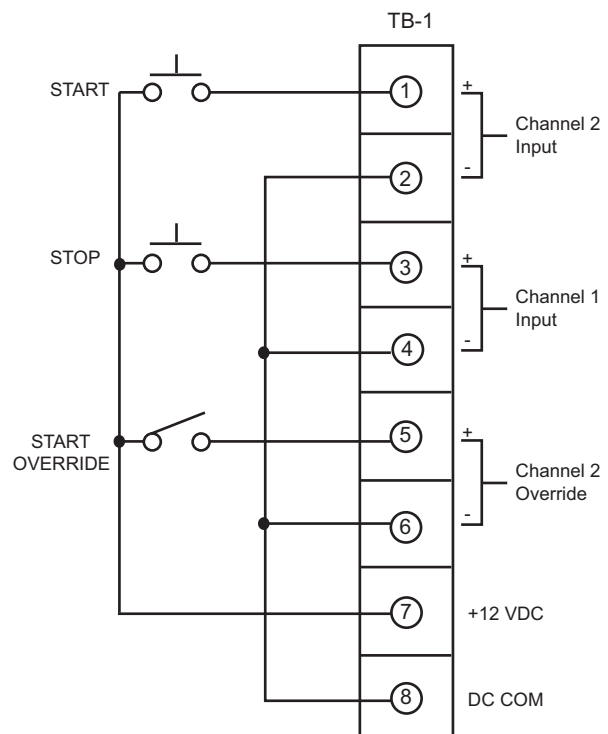

Figure 21a
- 1. Refer to Figures 21a through 24a for various switching devices which can be used.
10. Double check all input switching circuit wiring and hook-ups to insure proper wiring and connections. Refer to figures 21a through 24a.